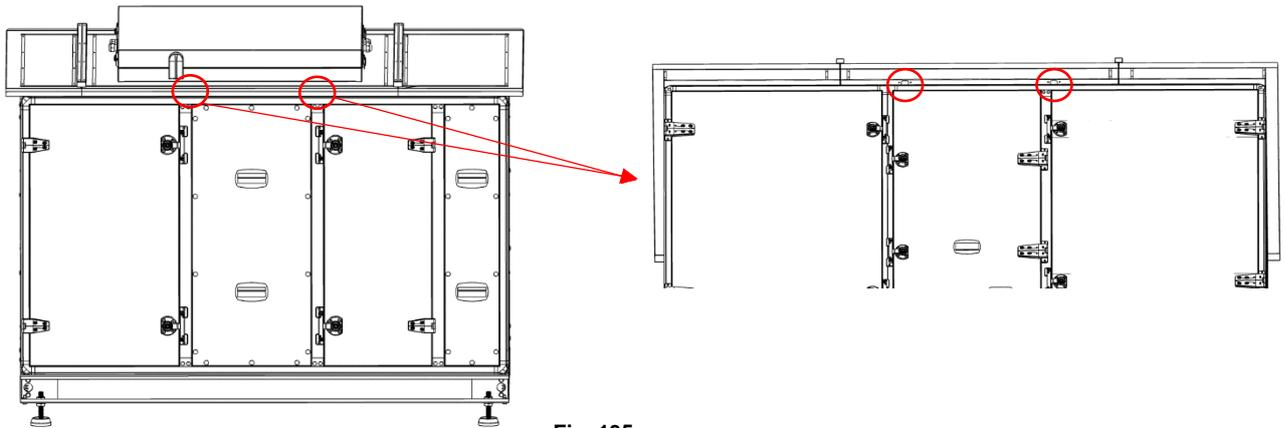

Fig. 135
- There are two hole for main switch cable on the EVO-45R-55R-70R-85R weather roof. (Fig. 135) Remove the sheet metal part from the hole in the service direction so that the main switch cable passes through it.